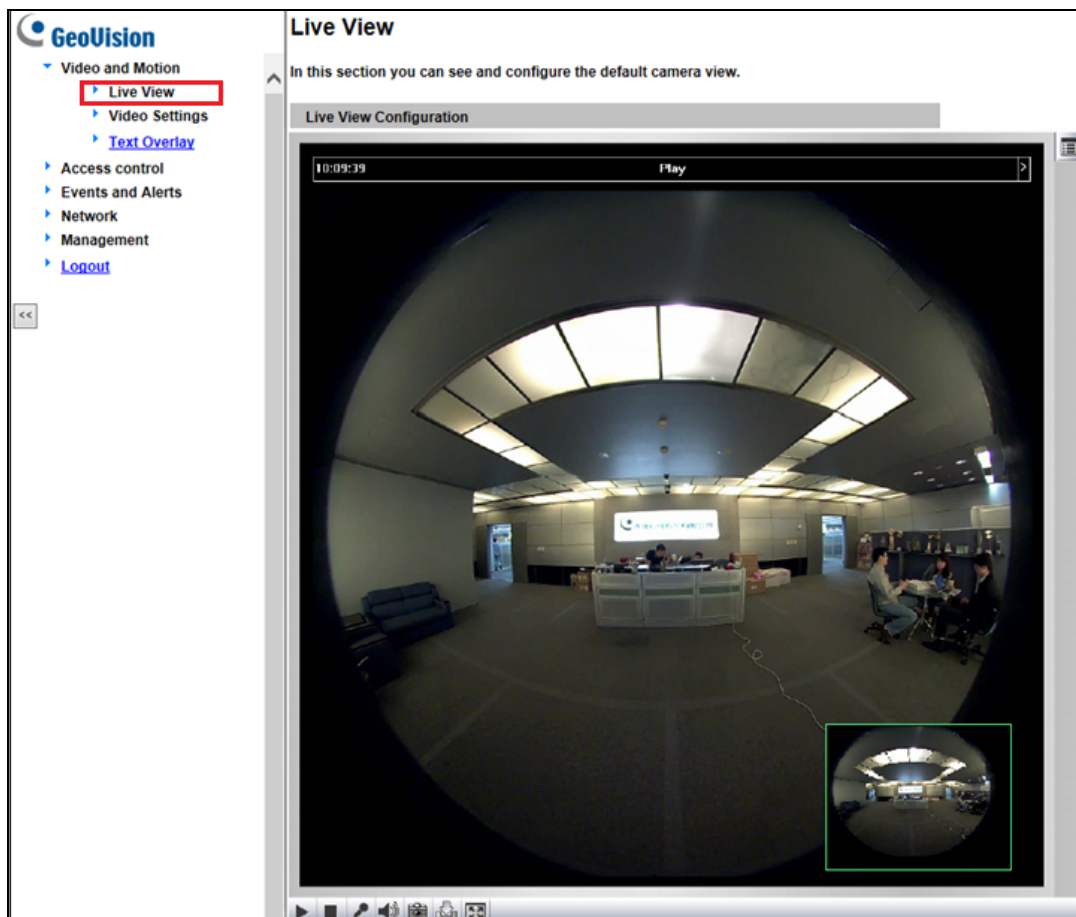

Figure 3-3
4. The live web page, similar to the image in *Figure 3-3*, is now displayed on your browser.